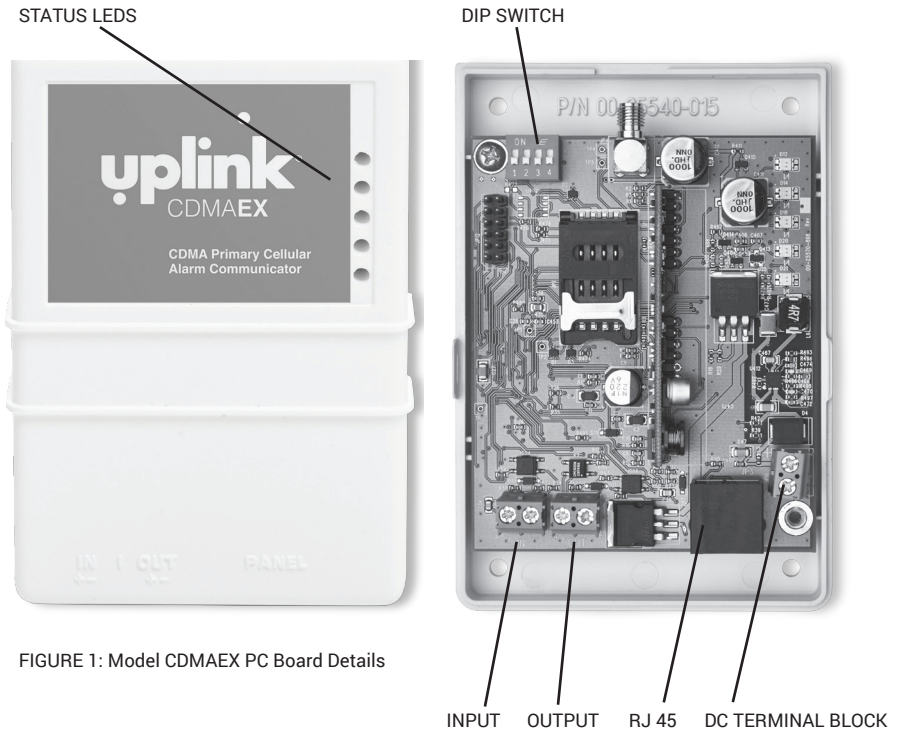

FIGURE 1: Model CDMAEX PC Board Details
3. Go to the red, 4-position Dipswitch as shown in Figure 1 and set the dipswitch as appropriate for this installation. (See DIP Switch Settings, page 12.)
5. Position the bottom of the CDMAEX enclosure where it will be installed. Use four (4) #6 screws and mount the unit using the four holes in the enclosure's plastic bottom.